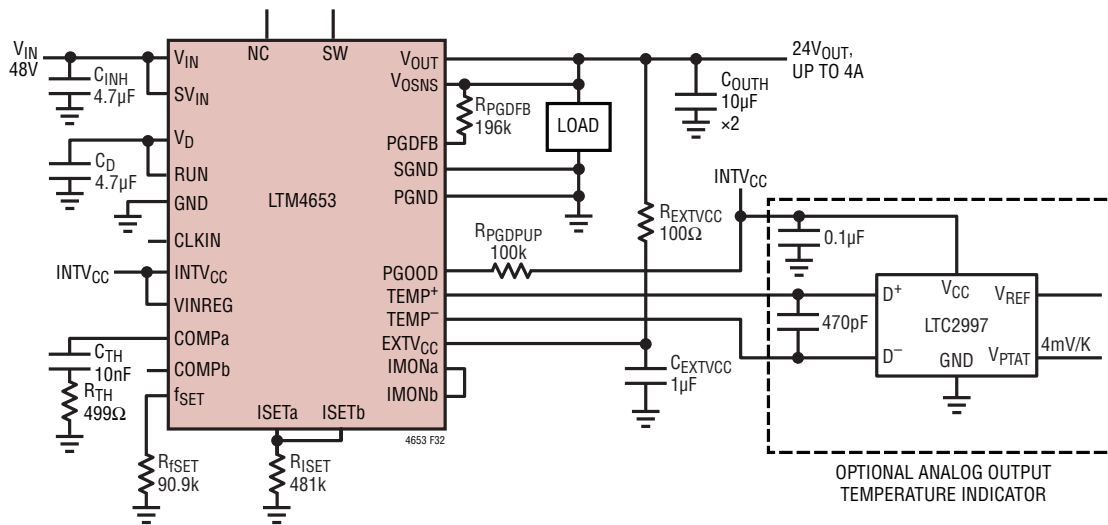

Figure 32. 4A, 24V Output DC/DC μModule Regulator
**Table 7. LTM4653 Output Voltage Response vs Component Matrix. Performance of Figure 32 Circuit with Values Here Indicated. Load-Stepping from 2A to 4A Load Current, at 2A/μs. Typical Measured Values**